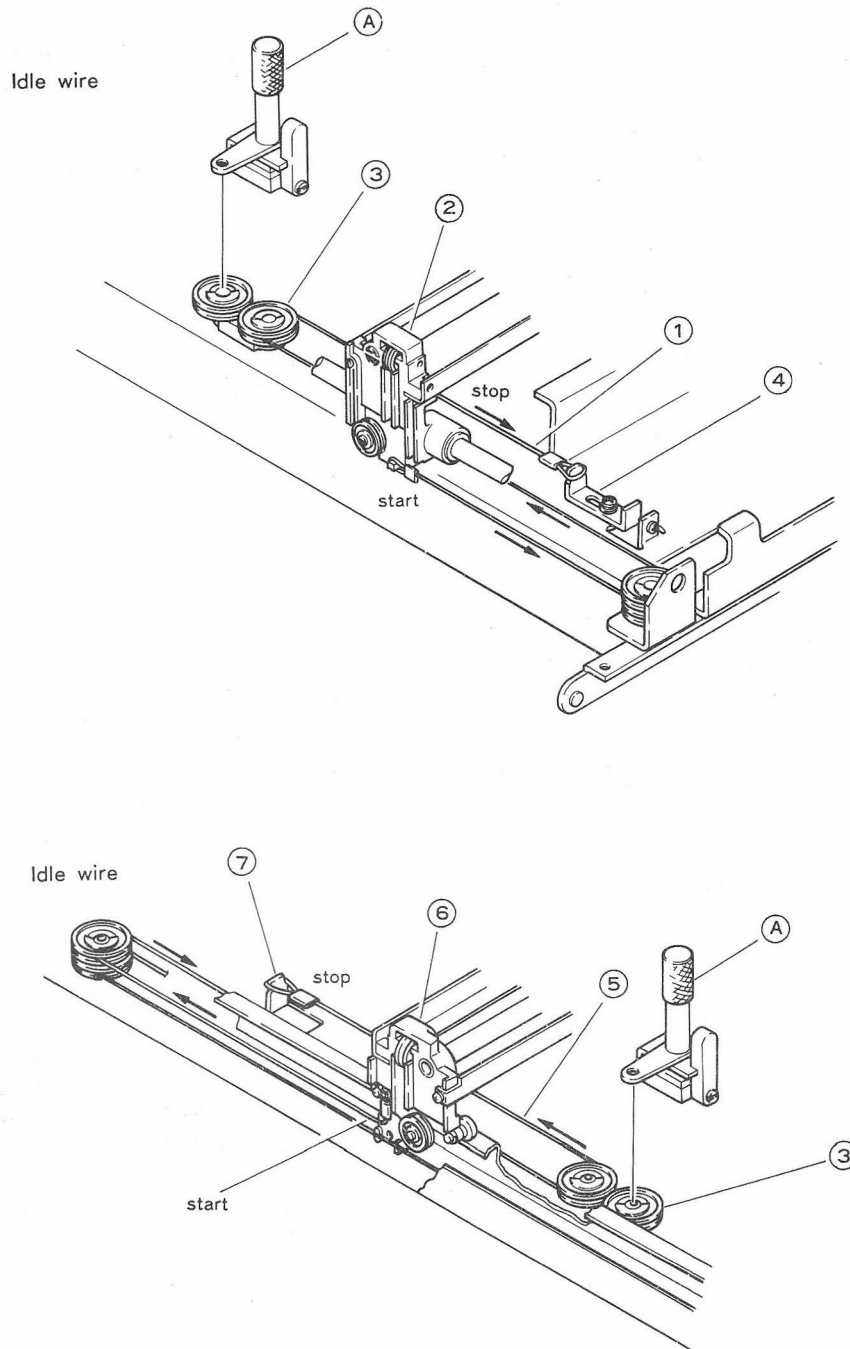

Fig. 10 Idle Wire Stringing
2. Idle Wire Stringing (Figure 10)
- a. Anchor the idle plate assy ③, set the idle wire ① on the front beam assy ② hook, insert it through the upper section of the pulley on the right side and idle plate assy ③, then mount the wire on the adjust plate c ④.
- b. Set the idle wire assy ⑤ through the hook of the rear beam assy ⑥, insert it through the upper section of the pulley on the left side and idle plate assy ③ through their grooves and mount it on the wire hook of the base frame assy ⑦.